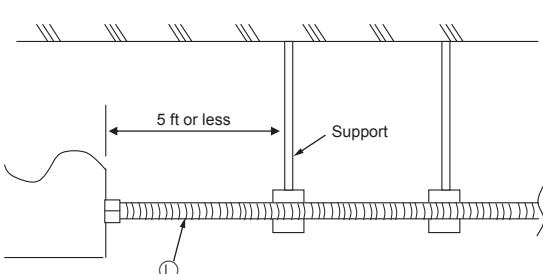

Fig. 8-8
To avoid excessive strain on the branch box, support the conduit pipe ⑪ with one or more support(s) 1.5 m [5 ft] or less from the branch box. Refer to Fig. 8-8 as an example.